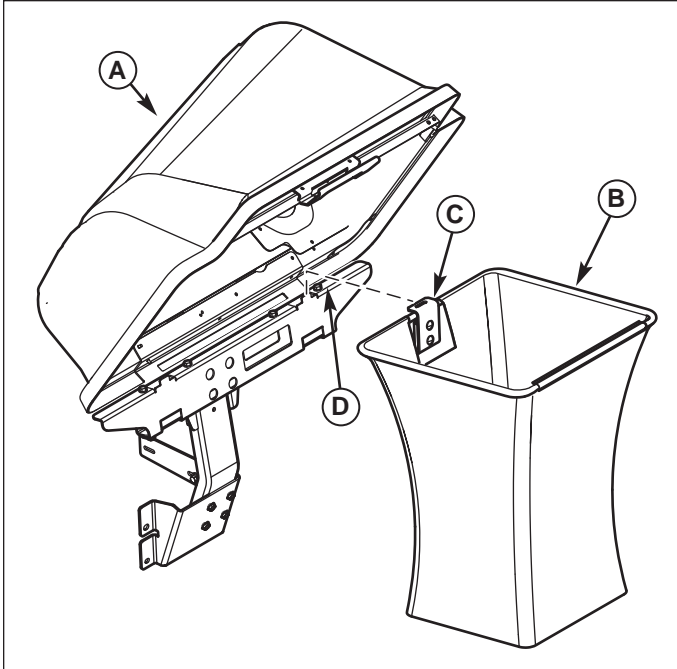
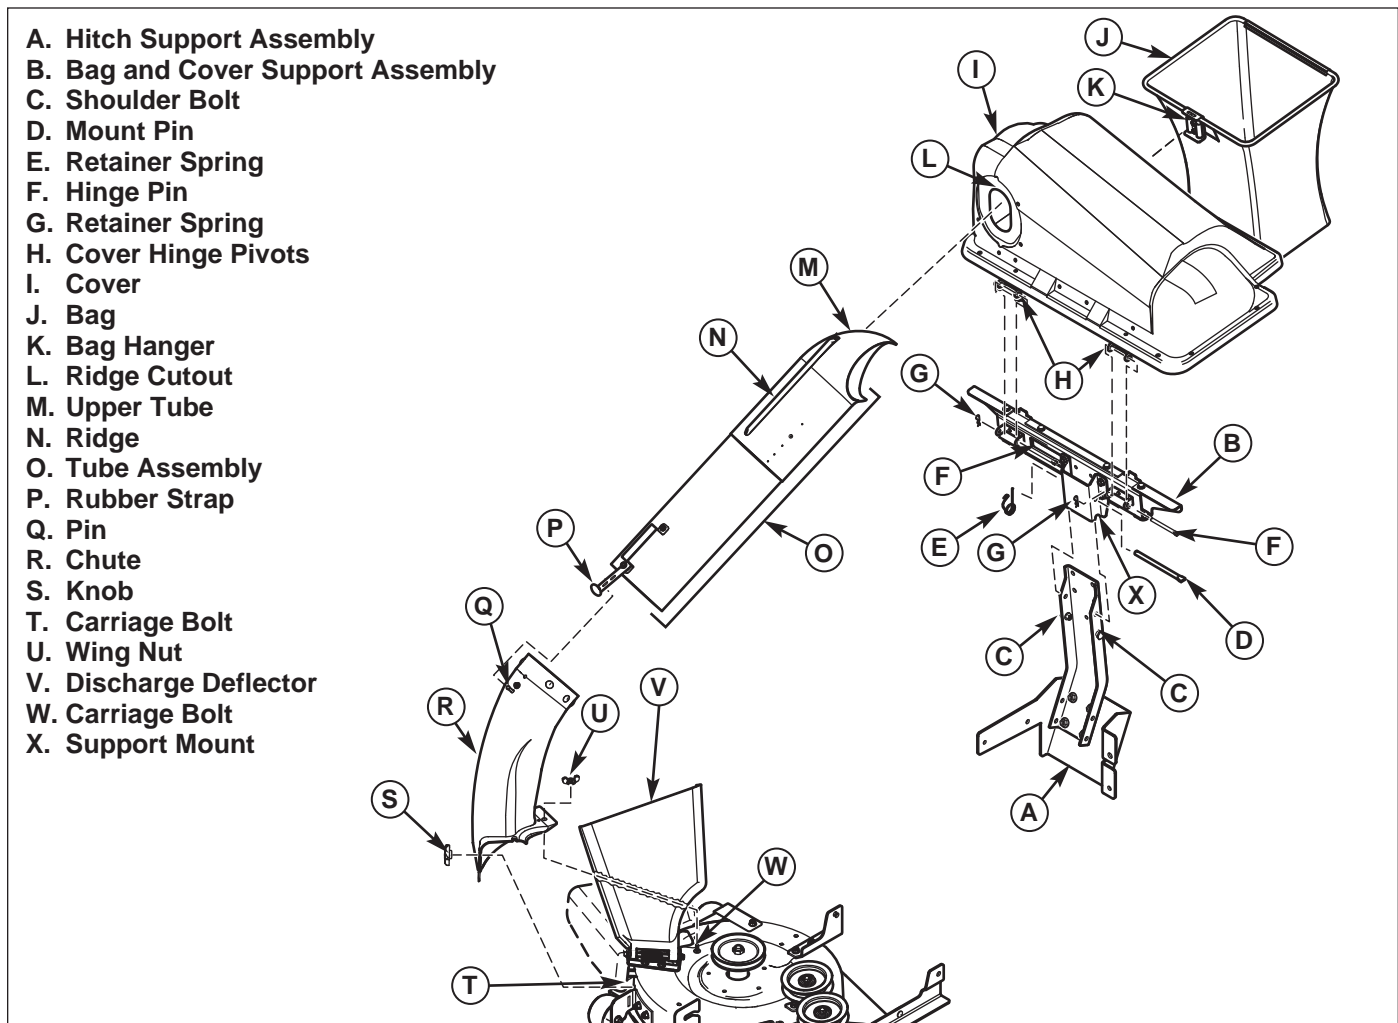

Figure 5. Install Collector Bags
Figure 9. Normal Installation & Removal
1. Raise the cover (A, Figure 5).
2. Attach collector bags (B) using grass bag hanger (C) to bag hanger post (D).
1. Attach bag and cover support assembly (B, Figure 9) to hitch support assembly (A) by sliding the support mount (X) into place until full contact is made with the shoulder bolts (C).
2. Insert mount pin (D) through support mount (X) and upright of hitch assembly (A).
3. Secure mount pin (D) with retainer spring (E).
4. Attach cover assembly (I) to bag support assembly (B) using cover hinges pivots (H). Secure cover assembly (I) to bag support bracket (B) using hinge pins (F) and retainer springs (G).
5. Raise the cover (I), and attach collector bags (J) using grass bag hanger (K) to hanger post (D, Figure 5).
6. Lift discharge deflector (V) up, and Place the holes of the chute (R) onto carriage bolts (T and W) sliding the front edge of the chute under the hinge bracket.
7. Secure knob (S) onto carriage bolt (T) as shown.
8. Secure wing nut (U) onto carriage bolt (W) as shown.
9. Slide upper tube (M) into cover (I) aligning ridge (N) with ridge cutout (L).
10. Slide tube assembly (O) over chute (R) securing tube assembly (O) to lower chute (R) using rubber strap (P) on tube assembly (O) to pin (Q) on chute (R).
1. Unhook rubber strap (P, Figure 9) from pin (Q), then remove tube assembly (O) from chute (R) and from cover (I).
2. Lift cover (I) and remove bags (J) from bag and cover support assembly (B).
3. Remove cover (I) by disconnecting retainer springs (G), then remove both hinge pins (F).
4. Remove bag and cover support assembly (B) from hitch assembly (A) by removing retainer spring (E), then removing mount pin (D).
5. Remove wing nut (U) from carriage bolt (W).
6. Remove knob (S) from carriage bolt (T).
7. Lift up discharge deflector (V) and remove chute (R) from carriage bolt (T and W).
**IMPORTANT:** See that discharge deflector (R) returns to the DOWN position.